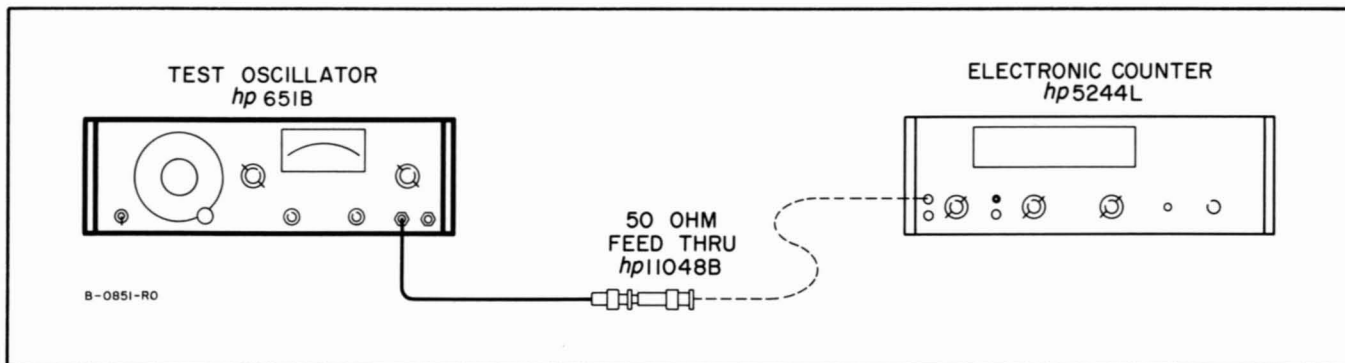

Figure 5-1. Dial Accuracy Check
- a. Connect 651B 50Ω output terminal to dc input terminal of electronic counter as shown in Figure 5-1.